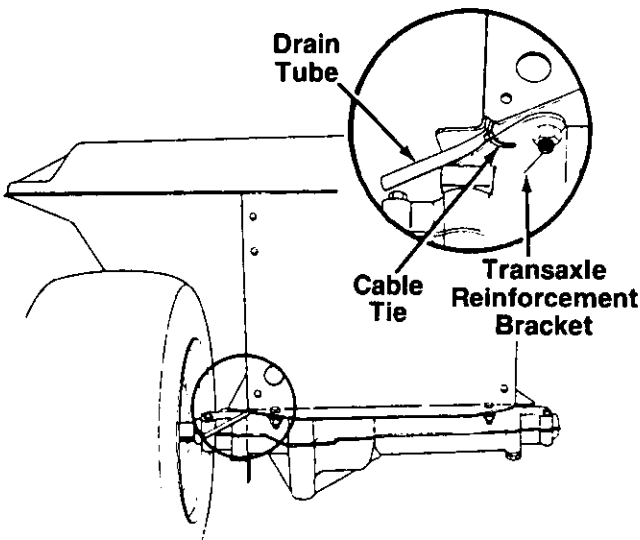

FIGURE 4.
- ← 5. Route the drain tube through the opening between the transaxle reinforcement bracket and the frame on the left rear of the unit. Secure the drain tube to the transaxle reinforcement bracket, using the cable tie as shown in figure 4. Be certain drain tube is routed away from the wheel rim. Trim excess end of cable tie.